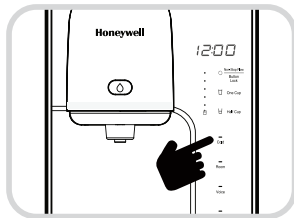

Fig. 2
1. Check if the Cold Display Lamp is ON and press the Cold button. (Fig. 2).